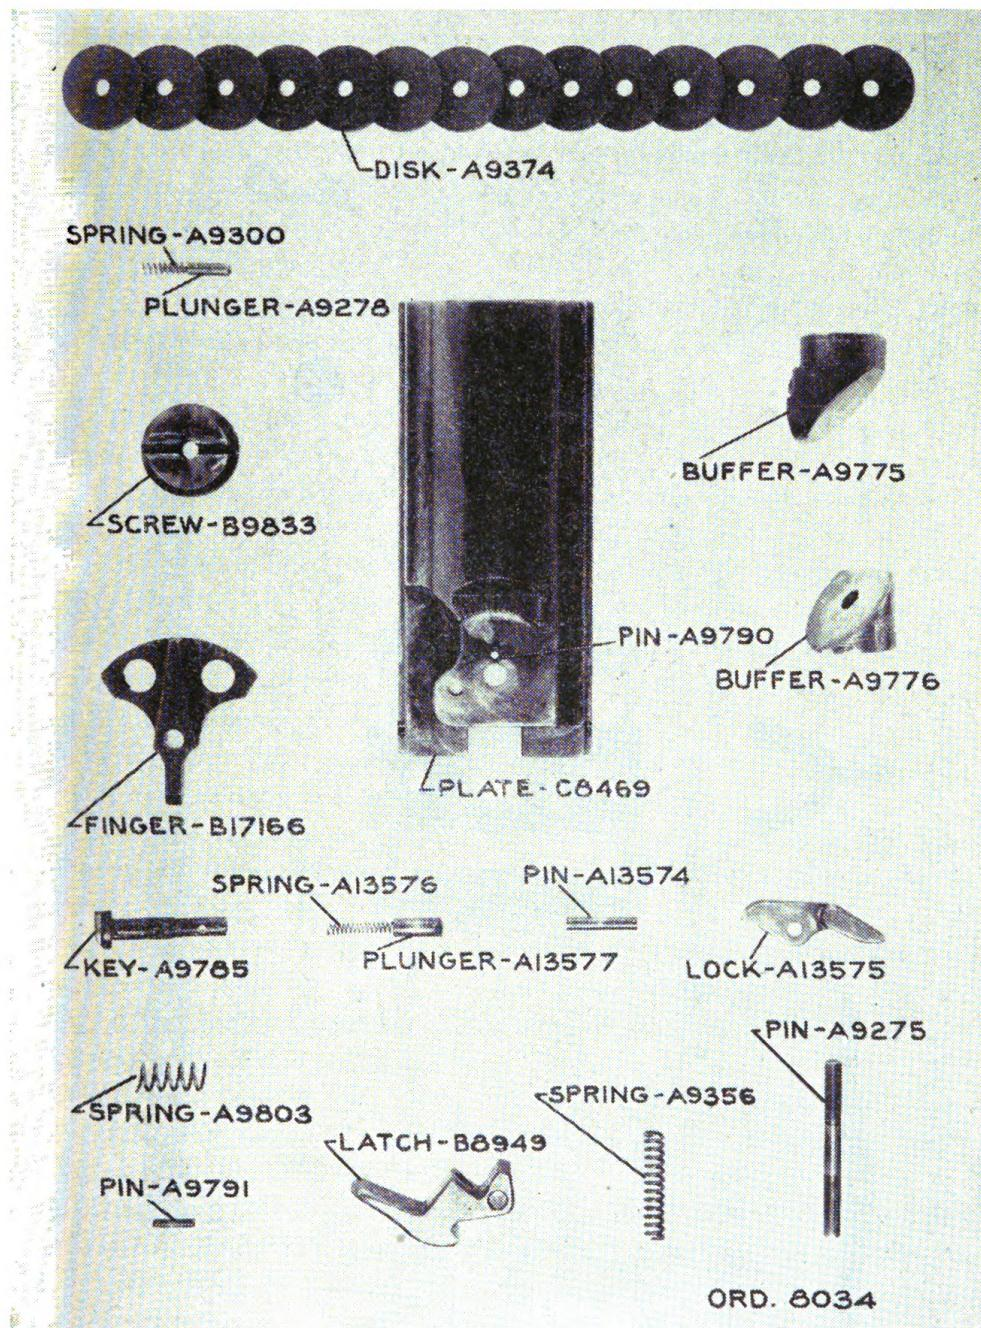

FIGURE 6.—Vertical buffer backplate (fixed type).
e. Backplate.—(1) Vertical buffer (fixed type) (fig. 6).—(a) Drive out backplate latch pin, being careful that backplate latch spring does not fly out upon removal of backplate latch.